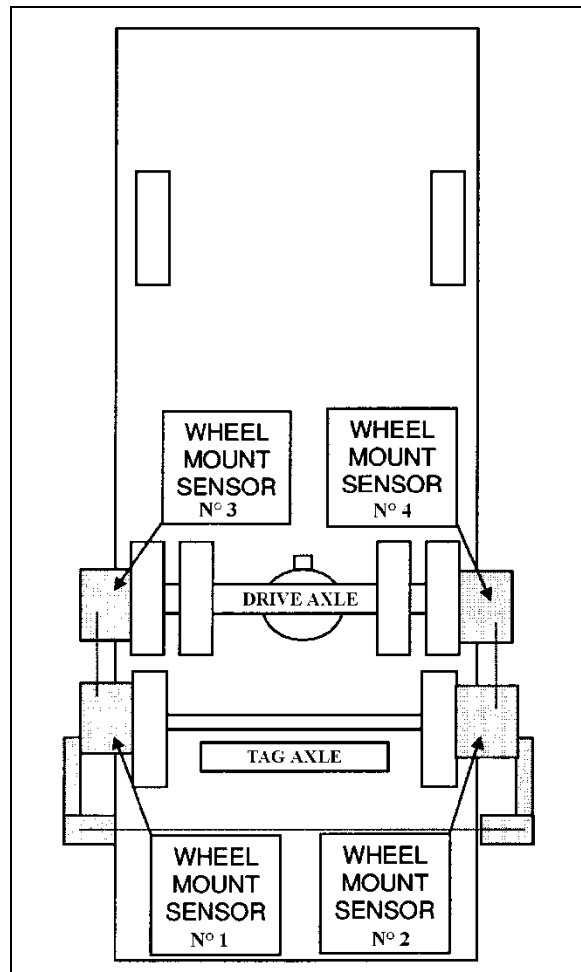

FIGURE 6: TAG AXLE ALIGNMENT 11026
See reference numbers on wheel mount sensors (Figure 6).
- With the system installed as in Figure 6, adjust drive axle according to specifications' chart below.
- Remove and reinstall all wheel mount sensors on the drive and tag axles (Figure 6);